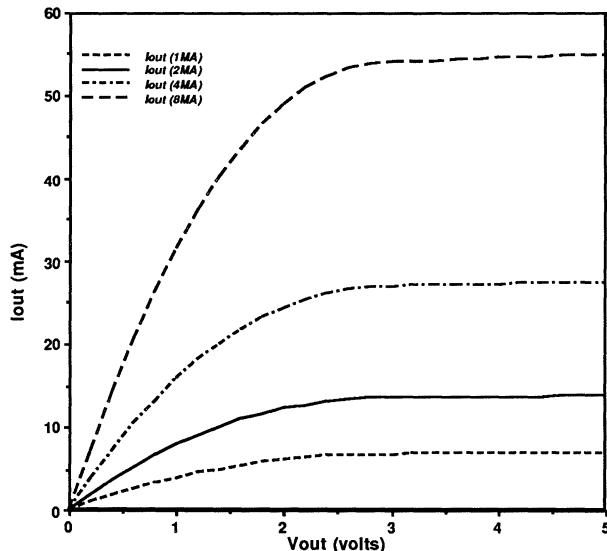
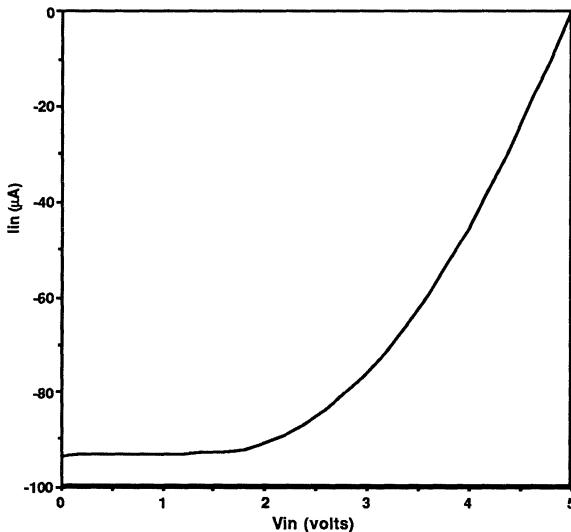

Figure 1: Typical TTL and CMOS N-Channel Driver DC Characteristics
Figure 3: Typical Input Pull-up DC Characteristics
2.1.2 Figures 1 and 2 show typical current voltage curves for the pad driver transistors from 1 mA to 8 mA. References to typical means the data was characterized for $T_j = 25$ degrees C, $V_{dd} = 5$ volts, and typical (nominal) process. Figures 3 and 4 show the typical current voltage curves for input pads with pull-up and pull-down devices.
2.1.3 Figure 8 and Tables 4 and 5 show derating factors for the current due to temperature voltage and process. Values are normalized to typical conditions. To obtain a current value at conditions other than typical, multiply the derating factors corresponding to those conditions to the current values from the curves in figures 1 through 4, i.e. $K_{TDC} * K_{VDC} * K_{PDC} * I_{DC}$.